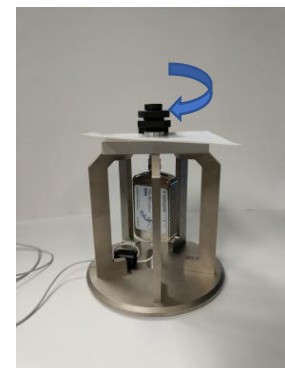

Figure 10. Lower Electrode
4. Turn the top knob counter-clockwise to raise the top electrode. (Figure 9) Place the approximately 1mm Teflon Calibration Sample between the two electrodes. Turn the top knob clockwise to lower the top electrode (Figure 10) until it is snug but not over-tight. then use the torque-limiting knob to lower the top electrode to its final force.